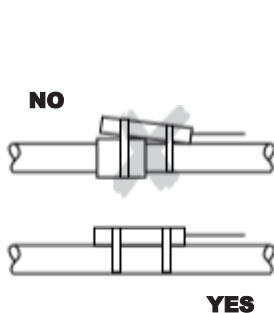
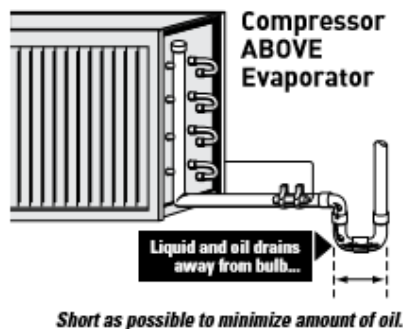
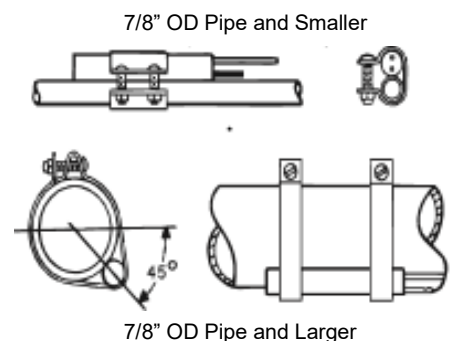

Figure 4
Figure 5
Figure 6
All F31HC and F35HC model series unit coolers are equipped with a venturi-flu refrigerant distributor which ensures maximum efficiency of the coil under most all operating conditions. There is no orifice or nozzle plate to select / install in the distributor inlet. For optimum coil performance the TXV should be mounted within the end compartment of the unit and as short a distance as possible from the distributor inlet. *Do not install any elbows between the outlet of the TXV and the inlet of the distributor!* A 1/4" O.D. equalizer tube is supplied on all units. Never cap this line - use only externally equalized valves. See **Figures 4, 5 & 6 (below)** for location and mounting of the TXV sensing bulb.
*Mount the TXV sensing bulb on a straight, horizontal section of the suction line tubing (**Figure 4**) as close to the evaporator outlet as possible and before the suction line P-trap (**Figure 5**). Position the bulb on the side of the pipe at one of the locations noted (**Figure 6**). Securely fasten the bulb to the side of the pipe with the provided straps. Completely wrap the bulb and piping with insulation to complete the installation.*